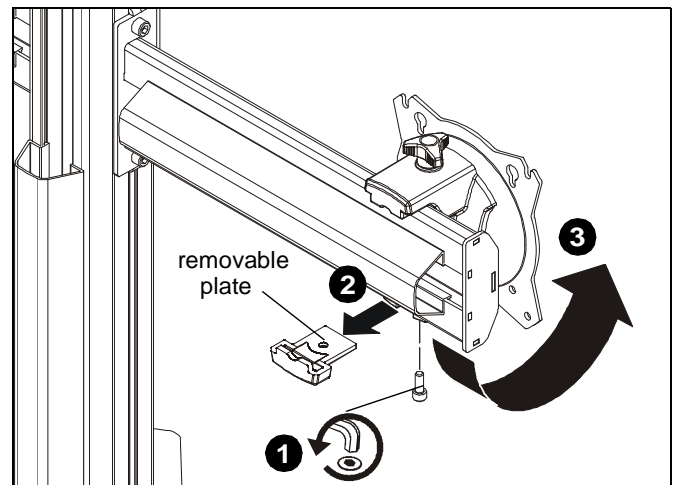

Figure 10
1. Remove hex head bolt from bottom of faceplate assembly. (See Figure 10)
2. Slide out removable plate from bottom of faceplate assembly. (See Figure 10)
3. Remove faceplate assembly from array arm. (See Figure 10)